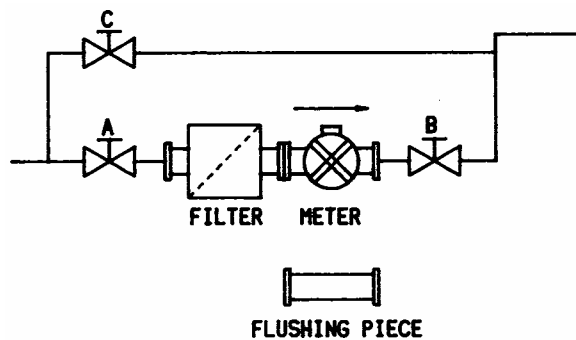

Fig. 16, Flowmeter system with bypass
1. Close valves A, B and C (Fig. 16).